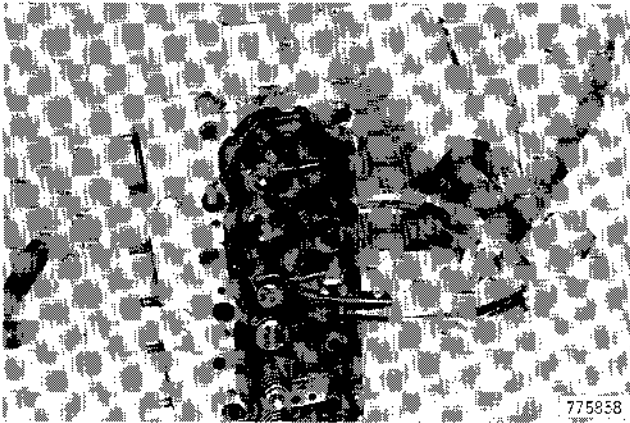

Figure 129
7. Release the valve spring compressor tool, Figure 129.